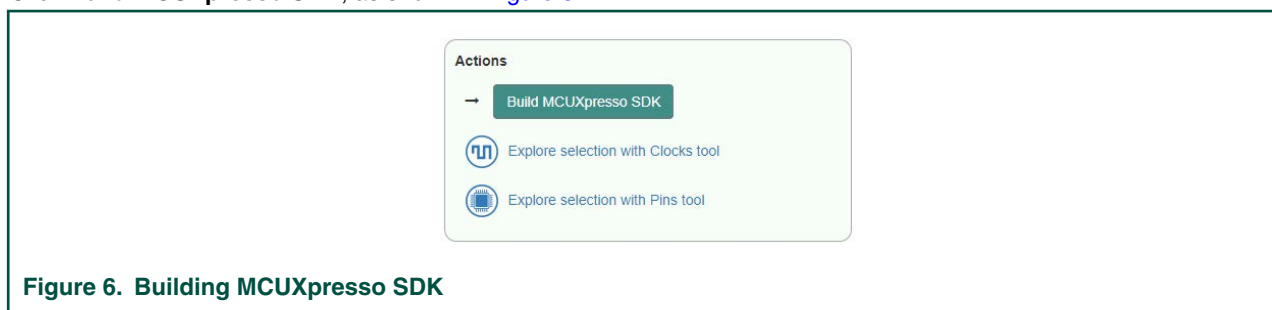

Figure 6. Building MCUXpresso SDK
- Click **Build MCUXpresso SDK**, as shown in Figure 6.